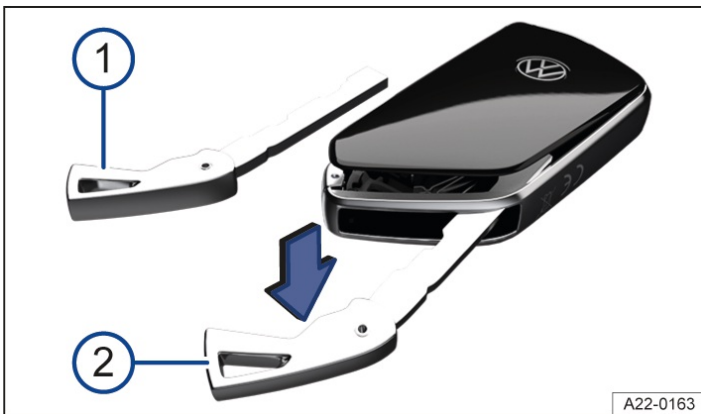

Fig. 1 Vehicle key: opening the battery compartment cover.
1. Remove the manual key → Fig. 1 ① (→ Vehicle key).
2. Insert the manual key in the slot, press in the direction of the arrow and lever off the cover → Fig. 1 ②.